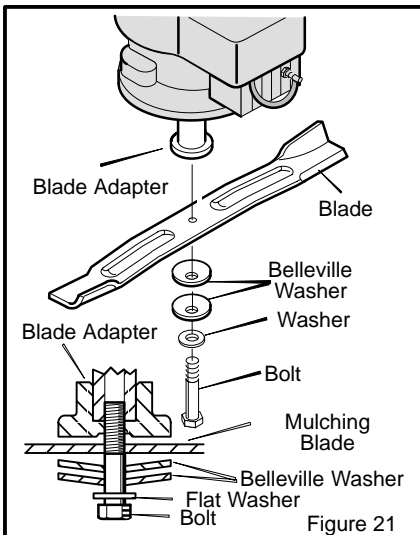

Figure 21
7. Fasten the **blade** with the original **washers** and **bolt**. Make sure the outside rims of the **Belleville washers** are toward the **blade** (Figure 21).